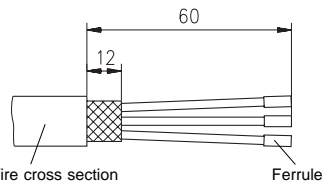

Fig. 7 : Cable preparation
- Prepare wire accord. to fig. 7